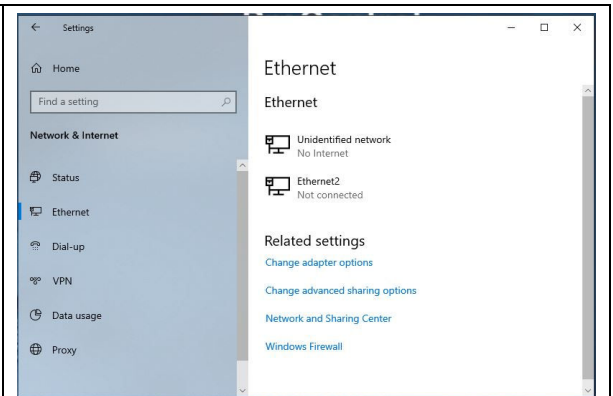

Figure 3-9 Select Change adapter settings
- a. Open the Windows Start . Click on the Settings icon . Select Network & Internet. Then select Ethernet/Change adapter settings (Figure 3-9 Select Change adapter settings)